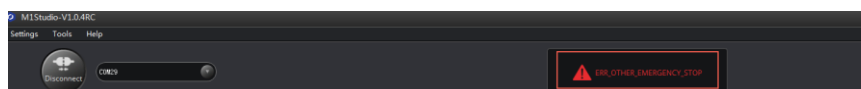

Figure 5.21 Alarm tip
- Step 4** Double-click the alarm tip generated on the M1Studio page, as shown in Figure 5.21